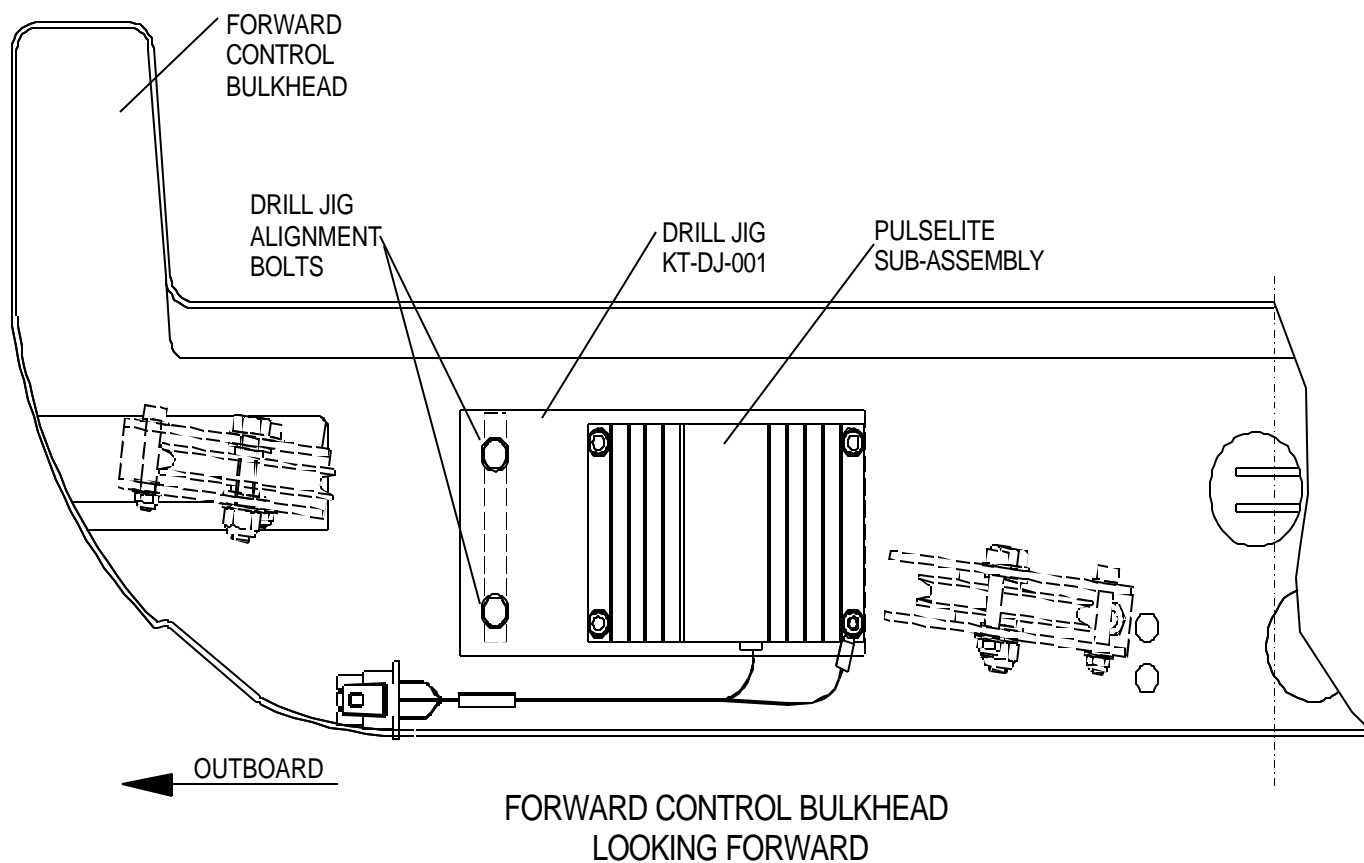

Figure 1
- 10.13 Locate the Pulselite power supply using drill jig (P/N KT-DJ-001). Refer to Figure 1.
- 10.14 Install the pulselite power supply as shown in Figure 1.